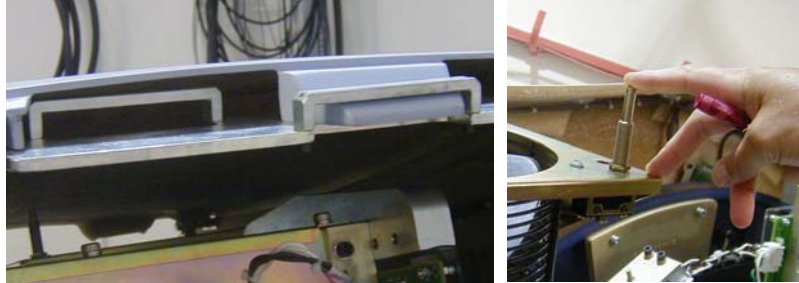

Figure 6 Top cover tabs and bracket, plus fan interlock switch.
- 2.) Slide the cover down 75 millimeters. This allows the cover's tab to disengage from the mounting bracket. See Figure 6.